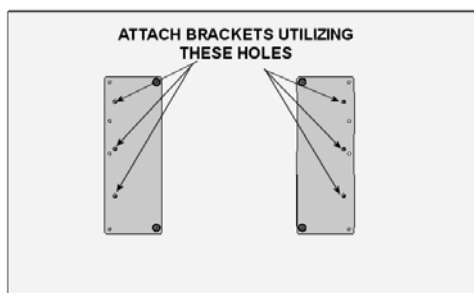
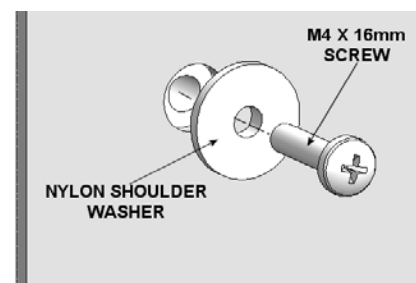

Figure 3
Figure 4
2. Attach mounting brackets to display as shown using the M4 Philips head cap screws with one shoulder washer under the head of the screw (see Figure 3 & Figure 4)